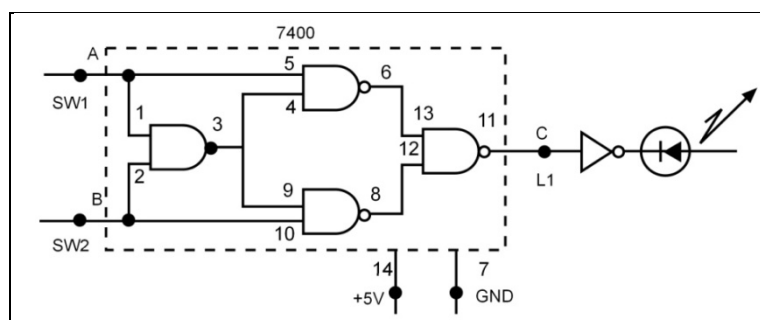

Fig. 1-1 Multiplexer Circuit for Steps-1 and -2
1. Construct the circuit shown in Fig. 1-1. Use a 74LS00 IC, and be sure to connect +5 volts and ground to pins 14 and 7 respectively.
Study the circuit in Fig. 1-1 and answer the questions below.